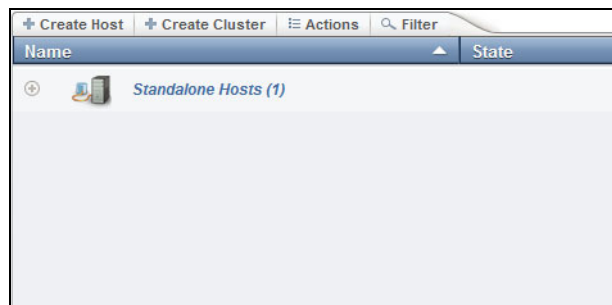

Figure 11-65 Create Cluster
3. The Hosts window opens. Click the **Create Cluster** tab as shown in Figure 11-65.